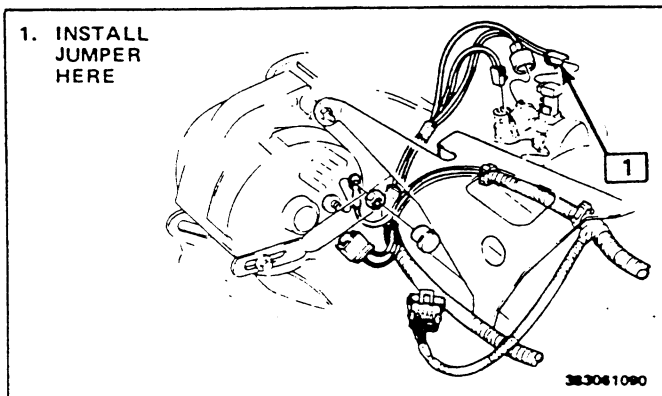

Fig. 6C5-13 V8 EGR-TV5 switch Jumper Location
14. Check the fast idle solenoid speed against the one given on the "Vehicle Emission Information Label." Reset if required, see Fig. 6C5-12, V8 and Fig. 6C5-15, V6.